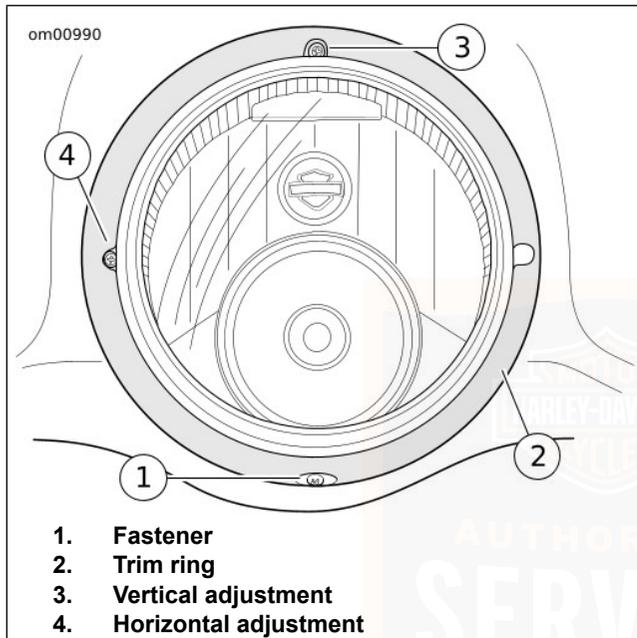

Figure 53. Headlamp Trim Ring
1. See Figure 53. Remove screw (1) and headlamp trim ring (2).